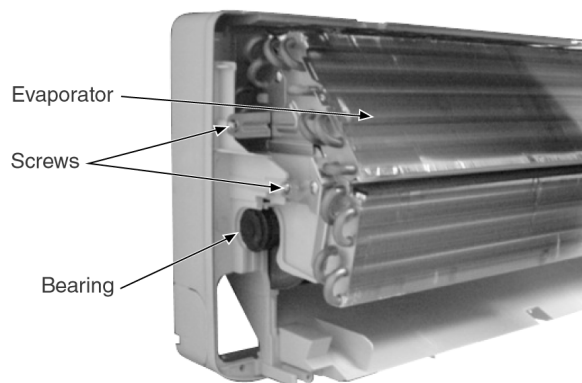

Fig. 9
6. Remove the Bearing. (Fig. 9)
7. Remove the screws at the left of the Evaporator. (Fig. 9)